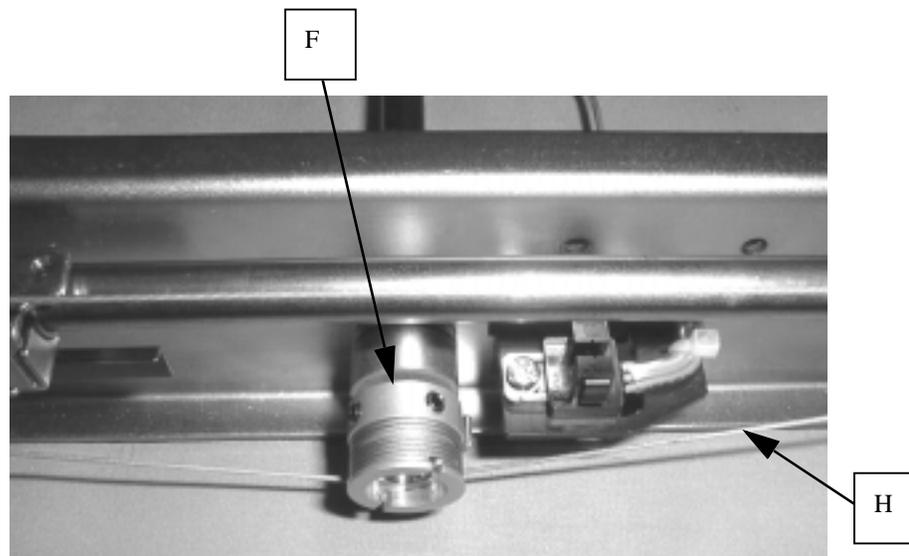

FIGURE 16-10
17. After winding the wire (H) onto pulley (F), where no X-sensor is mounted, by 4 turns externally and two turns internally as shown in Fig.16-10, bring the X-carriage (R) to the right, Where the Y-sensor is not mounted. Apply the X-carriage (R) to side bracket A (S), tighten setscrews (J) to connect the wire (H) and X-carriage (R) to each other.